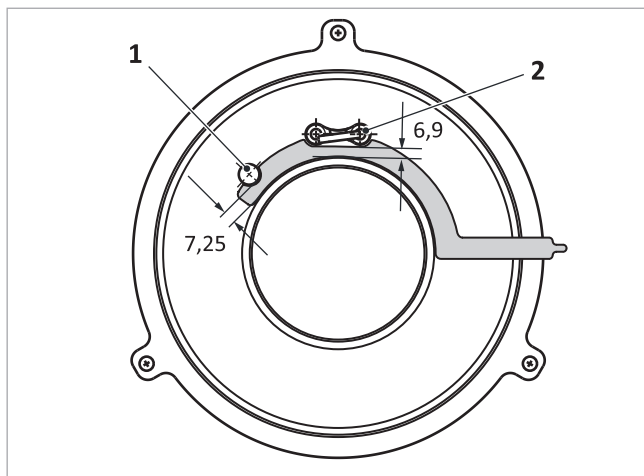

Fig. 39: Clearance from ionisation electrode and ignition electrode to burner tile
- Ionisation electrode → Fig. 39 (1): 7.25 mm
- Ignition electrode → Fig. 39 (2): 6.9 mm